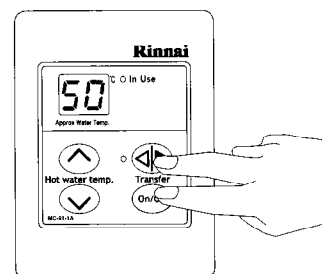

Fig 1.
STEP 1: On the Master controller only press and hold the **Transfer** and **On/Off** buttons simultaneously (see fig 1.) until a "beep" is heard (approx. 5 seconds)